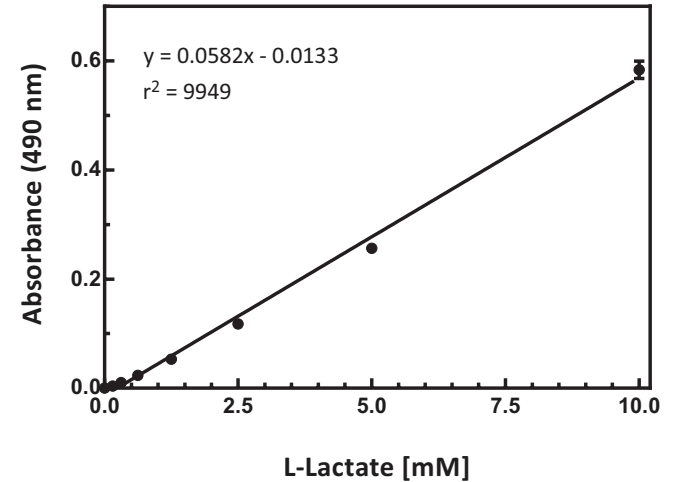

Figure 3. L-Lactate standard curve
3. Plot the corrected absorbance values of each standard as a function of the final concentration of lactate. See Figure 3, on page 13, for a typical standard curve.